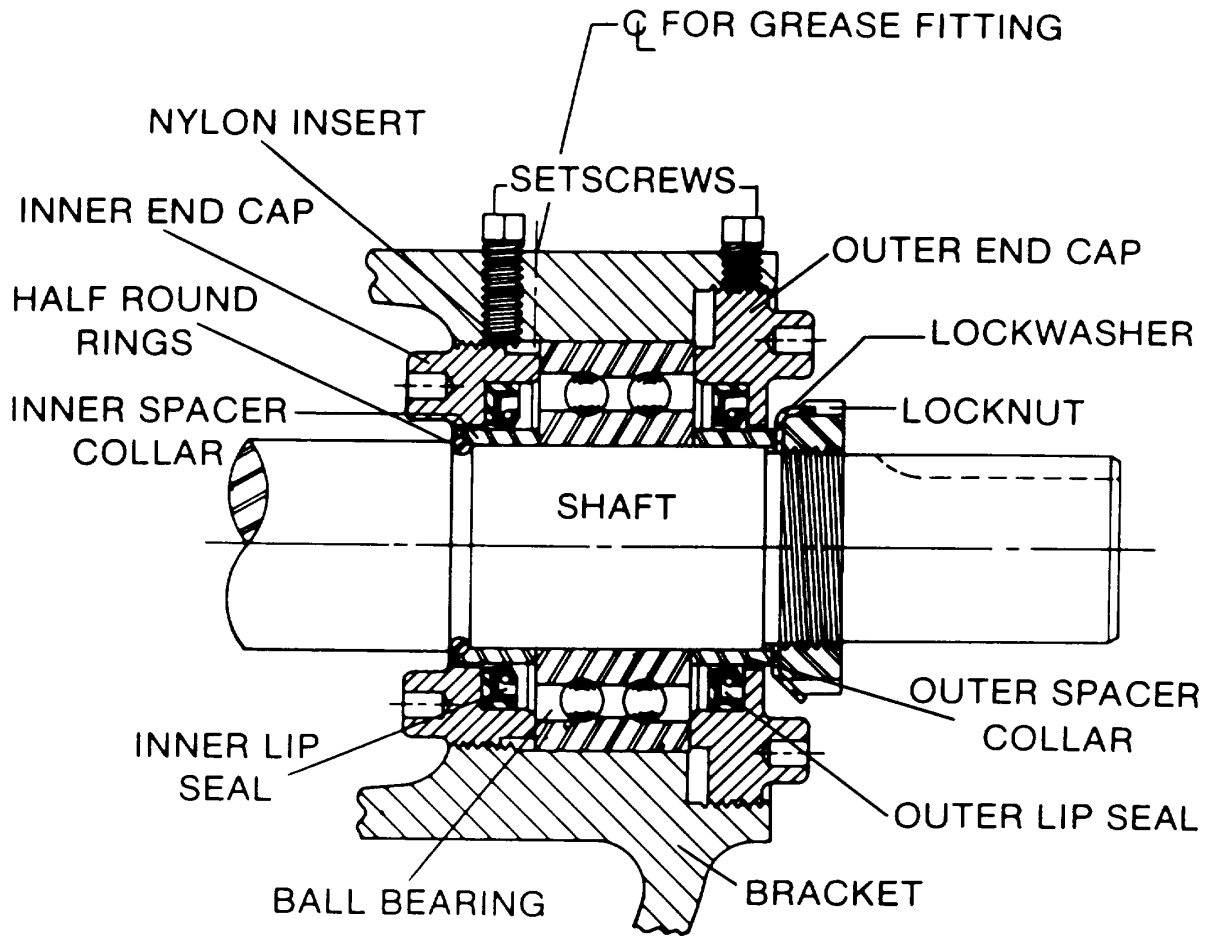

FIGURE 5.
8. Loosen setscrews. Two on H and HL size pumps, four on all other sizes. With a spanner wrench, remove both end caps with lip seals. Remove ball bearing. Refer to Figure 5.
Place pair of half round rings on shaft and slide inner bearing spacer collar over half round rings to lock them in place. There is no pair of half round rings on H and HL size pumps. Refer to Figure 5, page 4.
8. Press lip seal, lip facing end of shaft, in inner end cap and insert end cap through shaft end of bracket. Turn end cap clockwise, looking at shaft end, until it engages threads. End cap spanner wrench holes must be facing rotor. Turn end cap with spanner wrench until it projects slightly from opening on side of bracket. End cap must not be turned so far that lip seal drops off end of spacer collar on shaft or end cap becomes disengaged from threads. Refer to Figure 5, page 4.
10. Press lip seal, lip facing end of shaft, in outer end cap and insert end cap in bracket. Turn end cap in bracket until it is tight against bearing. Refer to Figure 5, page 4.
7. Loosen setscrews. Two for H and HL size pumps, four for all other sizes. With spanner wrench remove both end caps and lip seals. Remove ball bearing and spacer collars. Refer to Figure 5, page 4.